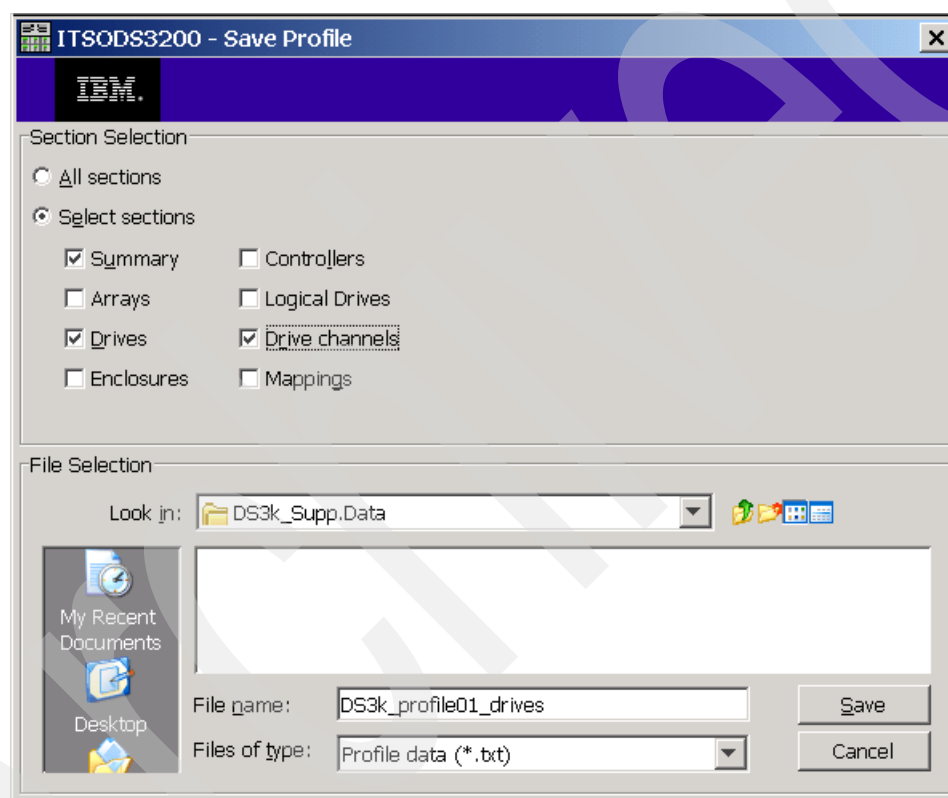

Figure 14-10 Save Profile
4. To save the profile, click **Save as**. At the top of Figure 14-10, choose which information you want to save. Tabs that you have already viewed will be selected, and you can select any other tabs that you want.